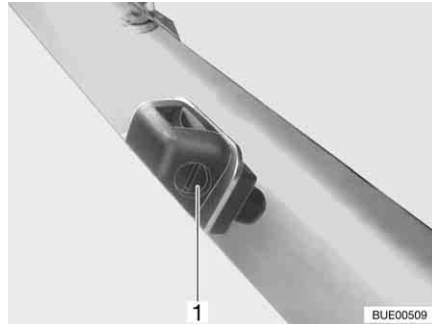

Fig. 43 Washer nozzle
- Use a suitable screwdriver to turn the adjusting screw (Fig. 43,1) until you reach the desired position.